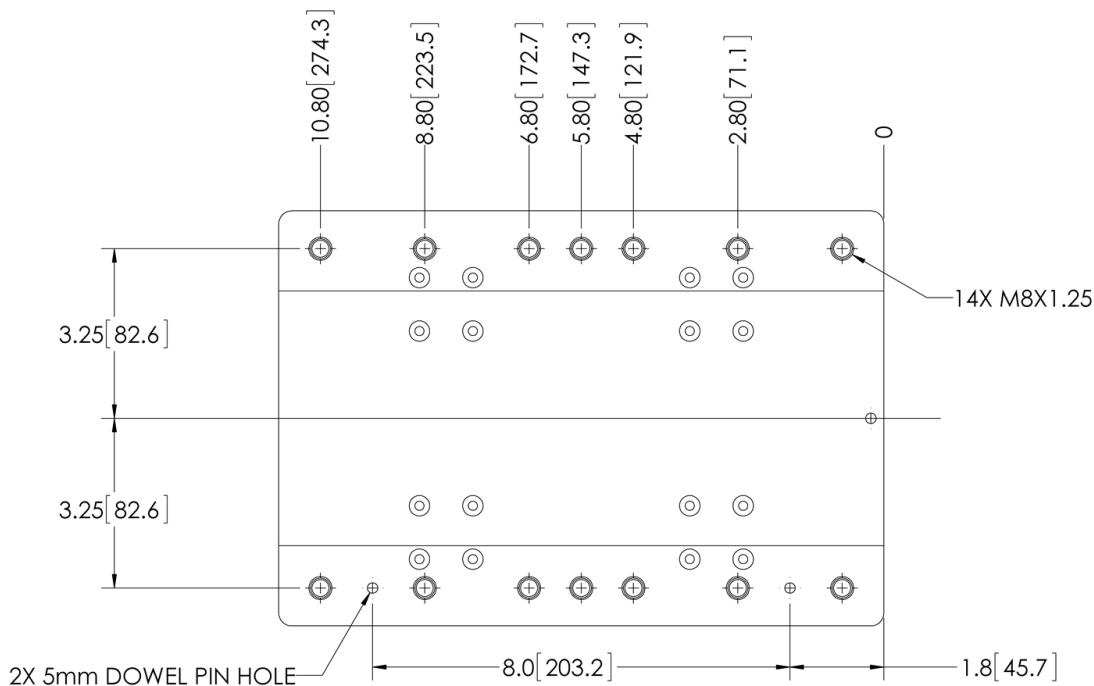

Figure 1: Carriage Bolt Hole Pattern
The bolt pattern on the Carriage has been designed to facilitate process equipment installation. The Carriage has (14) fourteen M8x1.25 mounting holes with a depth of 0.51 inch (13 mm) to provide secure attachment points. The mounting holes are spaced 6.5 inches (165.1 mm) across and on 1 inch (25.4 mm) and 2 inch (50.8mm) centers along the length of the Carriage. (See Figure 1) The Carriage also has (2) four 5mm dowel pin holes to facilitate alignment. (See Figure 1 for location) These dowel pin holes are oversized to allow the pins to be glued into place using Loctite 609, or equivalent. **Only utilize 4 of the M8x1.25 mounting holes; using more than 4 may cause warping of the carriage.**